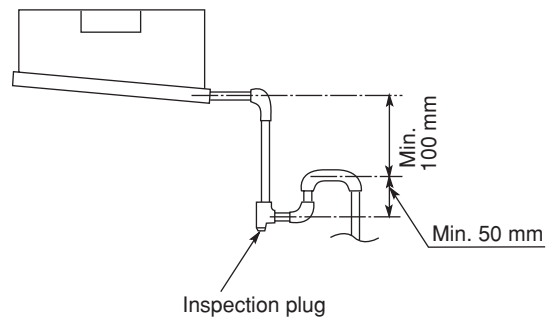

Fig. 3-104c
- (5) Also, in another part of the pipe arrangement, prepare traps with an inspection plug to clean dirt or debris that may cause leaking of water. (Fig. 3-104c)
- (6) After connecting the drain piping, slowly pour water into the drain pan to check that the water drains smoothly.